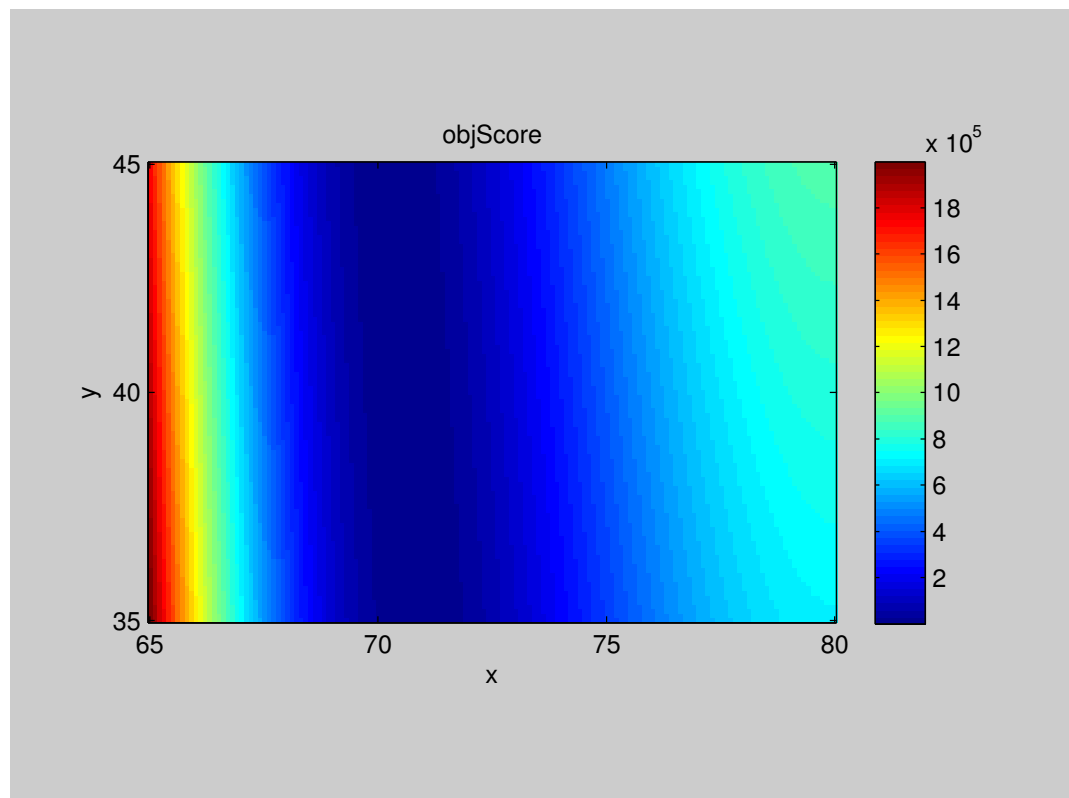

Figure 2.3: Response surface for the shifted Rosenbrock function.
- ▶ 23. Use the MATLAB editor to open ‘./exercises/differential-evolution/respsurf.m’. This script contains a few lines of code to help you get started on your algorithm. Run the script to visualize the response surface for the benchmark function ‘6’ (Shifted Rosenbrock's Function) for  $x = [65:0.1:80]$  and  $y = [35:0.1:45]$  (Figure 2.3).